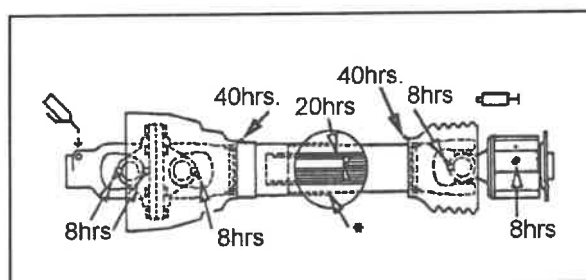

Fig. 5-1 PTO Shaft Lubrication Points.
1. Lubricate the PTO shaft (1 location – see Fig. 5-1).
1. Lubricate the PTO shaft (2 locations- see FIG. 5-1).